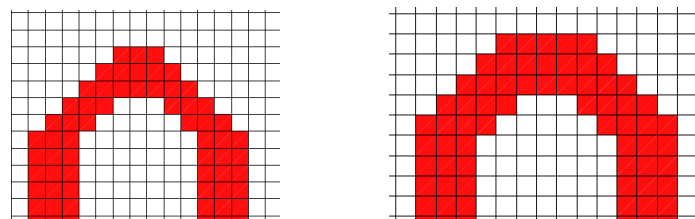

Fig.3. On the left, the coil width at “the bends” is reduced (to 2 cells).
**Note.** When drawing a coil, aim for a uniform cross-section along its entire length. If the coil's cross-section is too small (usually at “bends”), this may result in warning messages. The explanation is given in Fig.3.